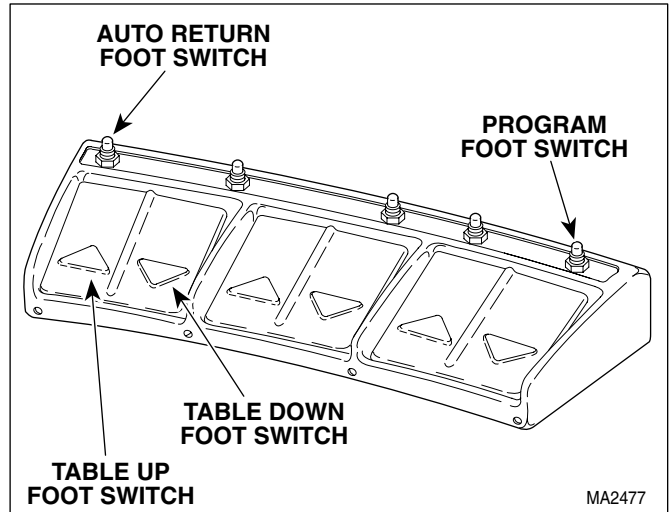

Figure 4-1. Reinitialization Procedure #1
- (1) Simultaneously depress and hold the PROGRAM, TABLE UP, and TABLE DOWN footswitches for at least two seconds; then release footswitches. See Figure 4-1.